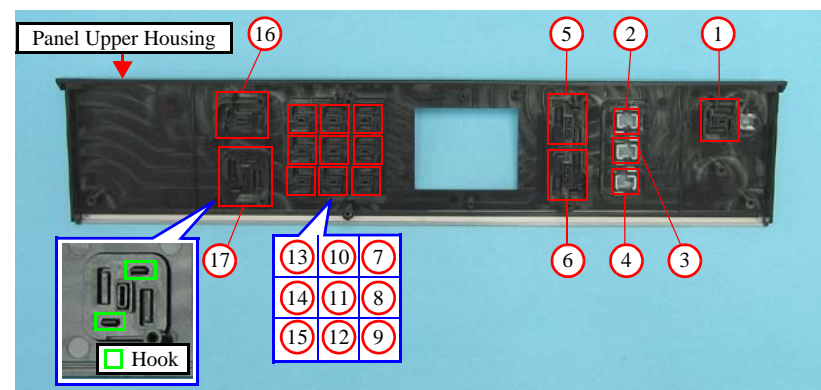

Figure 4-47. Removing the Panel Board (6)
- When attaching the buttons, insert the hooks (x2 each) of the buttons from the front of the Panel Upper Housing, and secure them properly. (See Figure 4-47.)